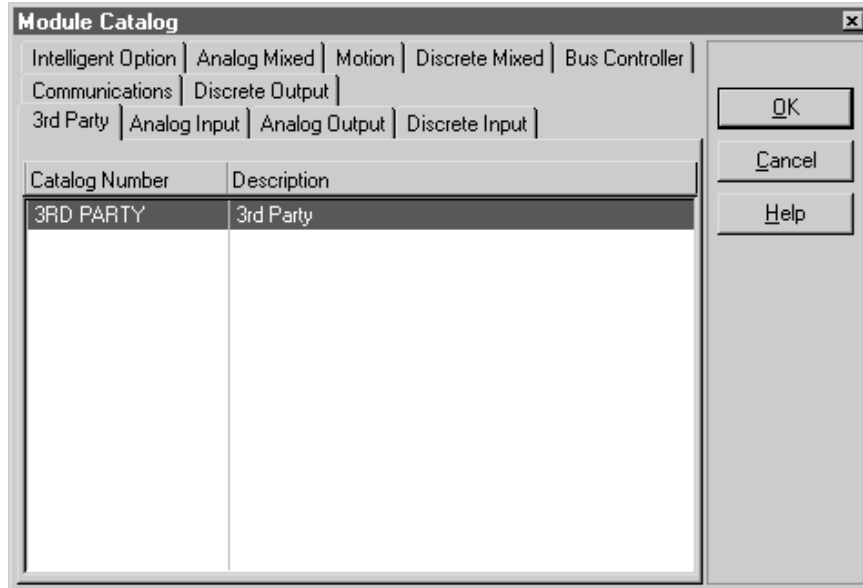

Figure 2.2
Step 5: Right click on the highlighted slot and select "Add Module". The following screen will appear (**Figure 2-2**).